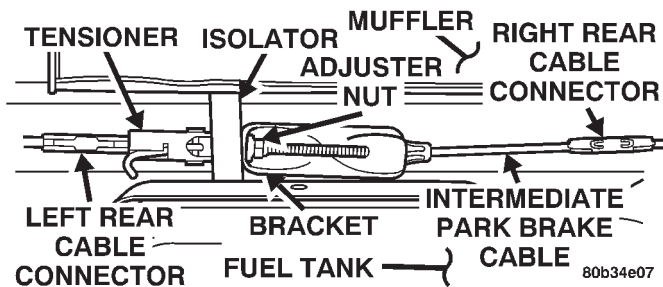
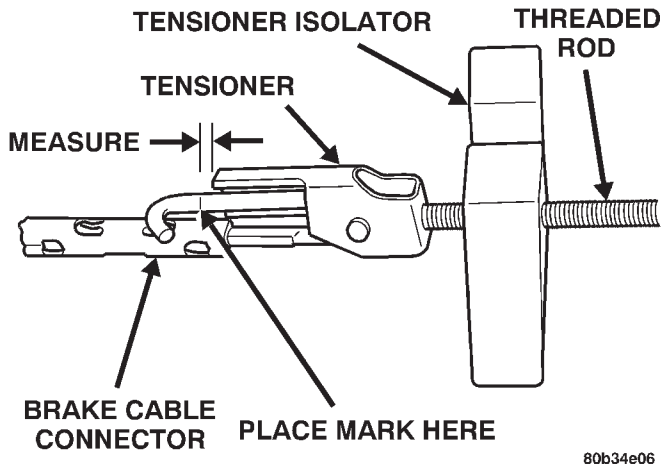

Fig. 72 Tensioner
Fig. 73 Adjustment Mark On Cable Tensioner Rod
- (2) Remove the park brake tensioner adjuster nut (Fig. 72), releasing the tensioner from the equalizer bracket to the intermediate cable.
- (3) Disconnect the connector and remove the park brake tensioner from the left rear parking brake cable (Fig. 72).
- (4) Remove the park brake tensioner with its isolator from the vehicle.
- (1) Mark tensioner rod 6.35 mm (1/4 in.) from edge of tensioner bracket (Fig. 73).
- (2) Install the park brake tensioner, with its isolator, in the vehicle, with the threaded adjustment
stud pointed towards the right side of the vehicle (Fig. 72).
- (3) Connect the left rear park brake cable to the cable connector on the tensioner (Fig. 72).
- (4) Attach the threaded end of the tensioner to the equalizer bracket (Fig. 72), and install a new adjuster nut. Do not tighten at this time.
- (5) Verify the rear park brake shoes are properly adjusted.
- (6) Lower vehicle enough for access to park brake foot pedal. Fully apply park brakes.
- (7) Raise vehicle again.
- (8) Tighten adjusting nut at equalizer (Fig. 72) until mark on tensioner rod (Fig. 73) moves into alignment with edge of tensioner bracket.